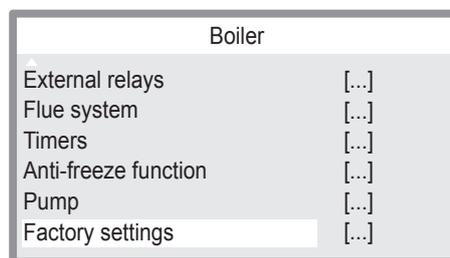

Figure 9.11
- 4 Press key "A" or "B" (Figure 9.7) to select the desired menu (Figure 9.11).